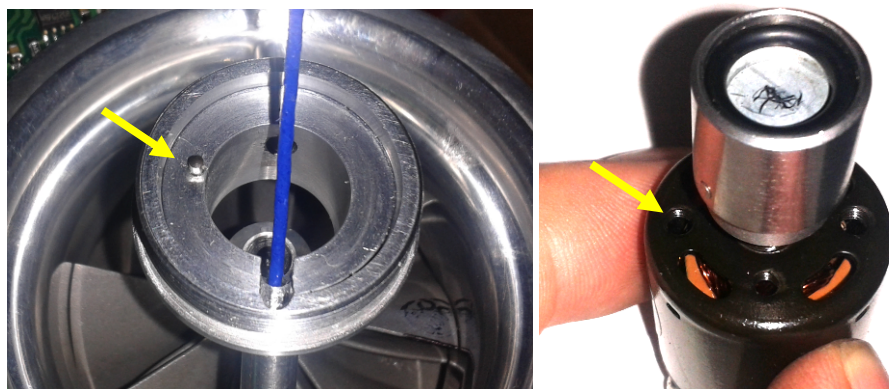

Figure 10 – starter motor must be positioned with the M3 threaded hole on the anti-rotating pin
- 3) Locate the starter motor with the M3 threaded hole against the anti-rotating pin in the starter motor holder as seen in Figure 10